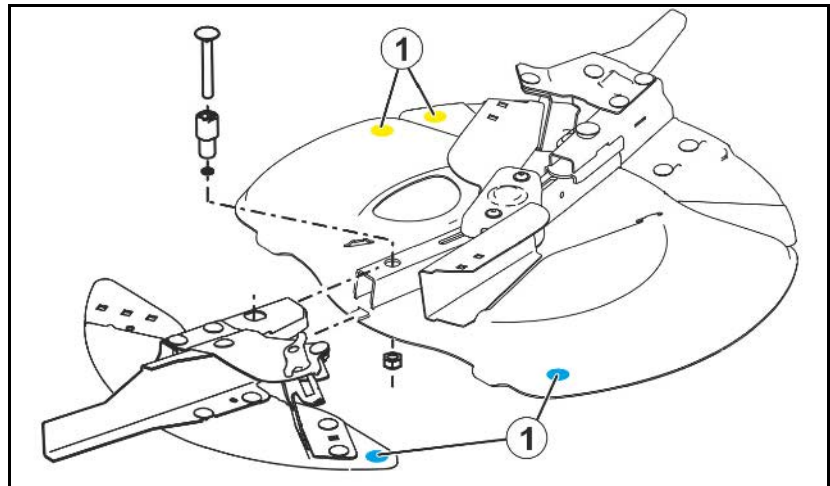

Fig. 50
1. Boundary spreading in accordance with fertiliser ordinance (Fig. 50):